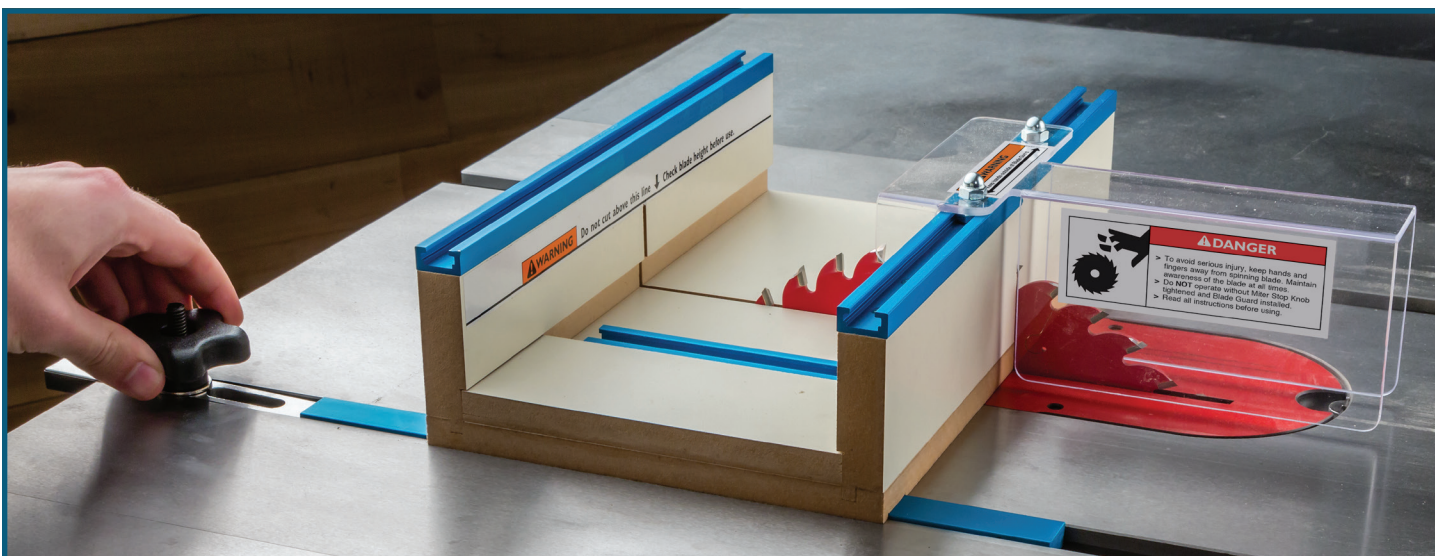

Fig. 5
11. Position the Safety Miter Stop (9) in the table's miter slot at the back of the table saw so that it contacts the sled. Tighten securely. Exact positioning depends on the specific dimensions of your saw; you **MUST** position the stop so it prevents the sled from advancing so far that the blade emerges out the back of the plastic Blade Guard (6). **Fig. 5.**
- > Do not operate sled without Safety Miter Stop (9) in place with knob tightened. See page 6, step 11 (and **Fig. 5**) for proper positioning.
- > Do not operate sled without plastic Blade Guard (6) installed.
- > Keep hands and fingers outside Blade Guard (6) and away from rotating blade to avoid risk of serious injury.